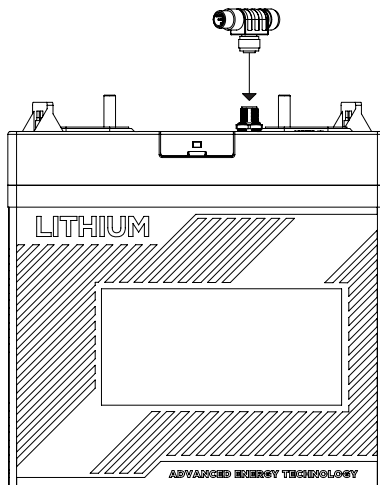

Figure 16. Attaching DLP T Connector to LYNK Port
2. Attach the 950-0038 DLP T Connector to the LYNK Port on each battery (Figure 16). Ensure that the mating connectors are securely fastened.